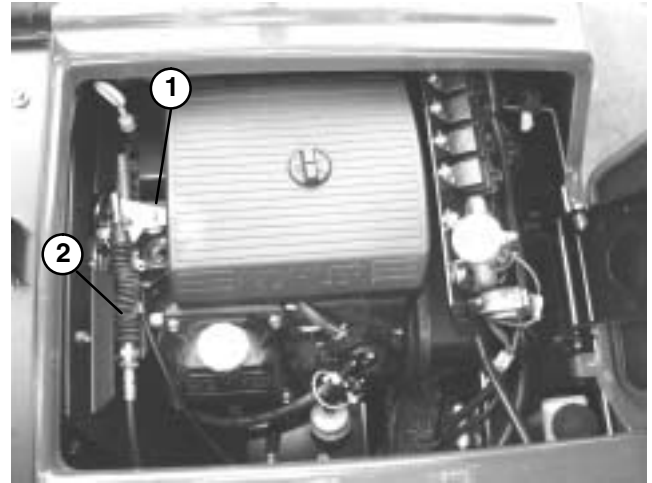

Figure 1
2. Tip seat to gain access to engine speed control (Fig. 1).